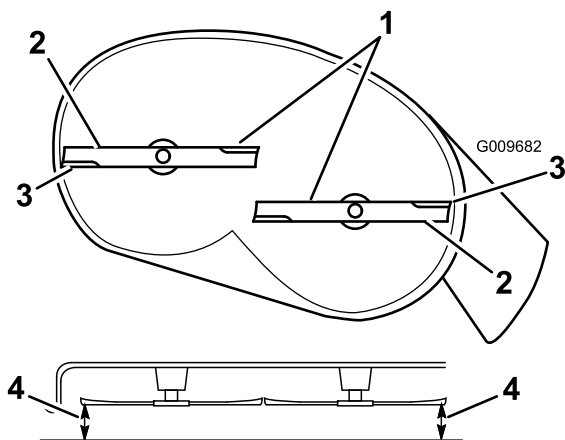

Figure 53
4. Carefully rotate the blades so that they are all side to side (Figure 53).
5. Measure between the outside cutting edges and the flat surface (Figure 53). If both measurements are not within 3/16 inch (5 mm), an adjustment is required; continue with this procedure.